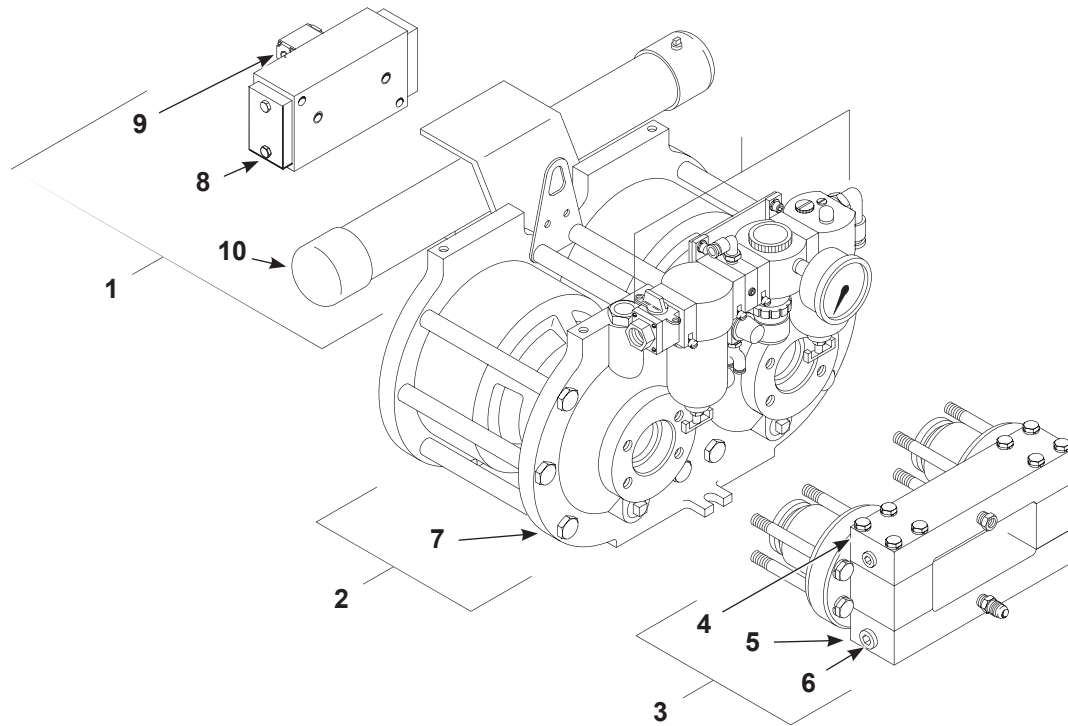

Figure 2-2 DR-1676 Pump Components
See Figure 2-2. The pump consists of air control components (1), an air motor section (2), and a hydraulic section (3).